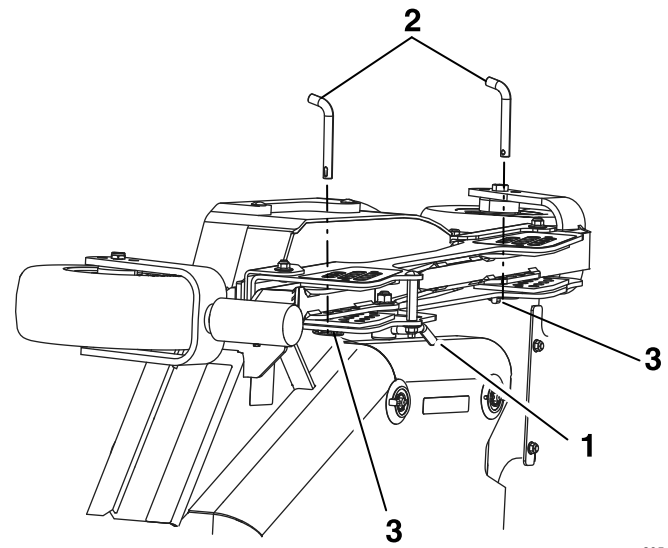

Figure 71
3. Unlock the left and right wing deck cam locks (Figure 71).
4. Remove and retain the wing deck height-of-cut lanyard (Figure 71).